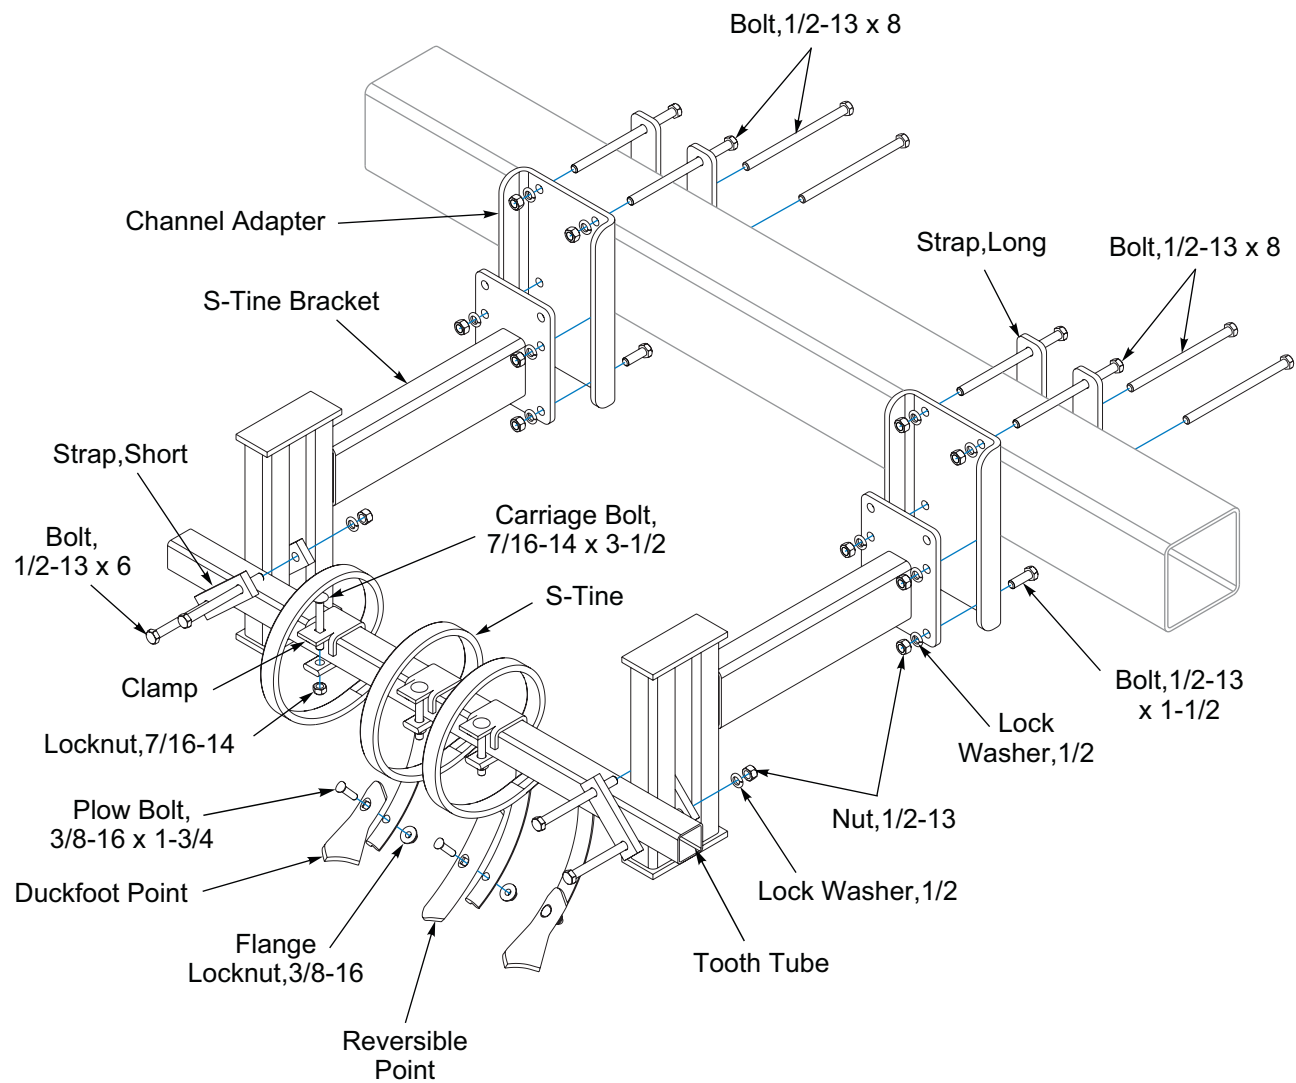

Figure 2-7: Wheel Track Remover Kit
4. Assemble the Points to the S-Tines. The suggested pattern is to assemble the Reversible Point onto the center S-Tine and a Duck Foot Point on the S-Tines on either side of the center S-Tine with 3/8-16 x 1-3/4 Plow Bolt and Flanged Locknut. **See Figure 2-7.**